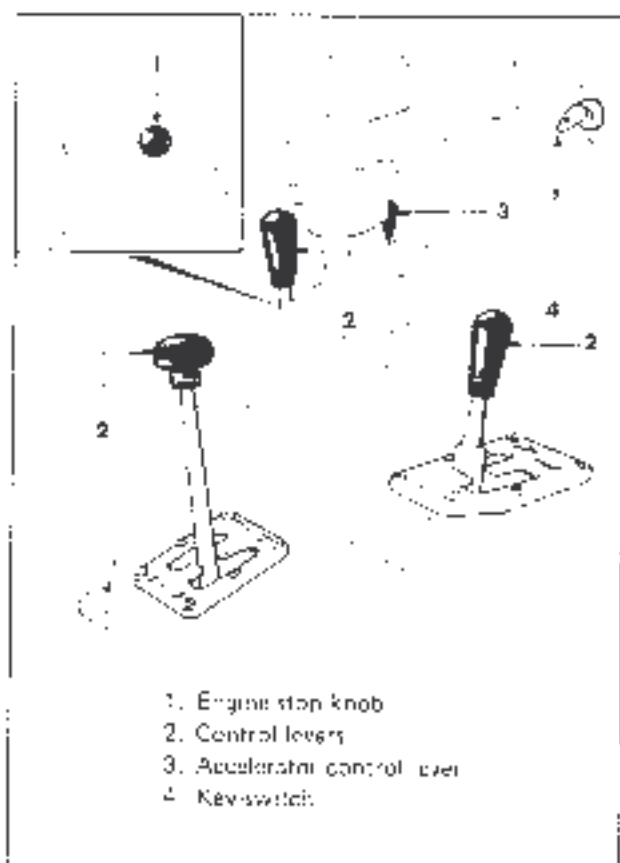

Figure 7. Controls for starting the engine
- For normal starting, proceed as follows (see figure 7)
2. Make sure that all control levers (2) are in NEUTRAL position.
3. Bring accelerator control lever (3) to half-way position.
4. Insert key in switch (4) and turn it to position "2".
3. Pull engine stop knob (Fig. 7, detail 1).